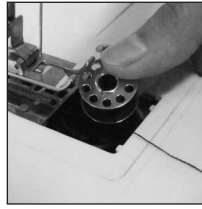

Fig.8
- (2) Put the new bobbin in the holder, with the thread going clockwise. Leave 10cm of thread hanging out (Fig.8).
- (3) Make a loop and put it in the hole under the needle.